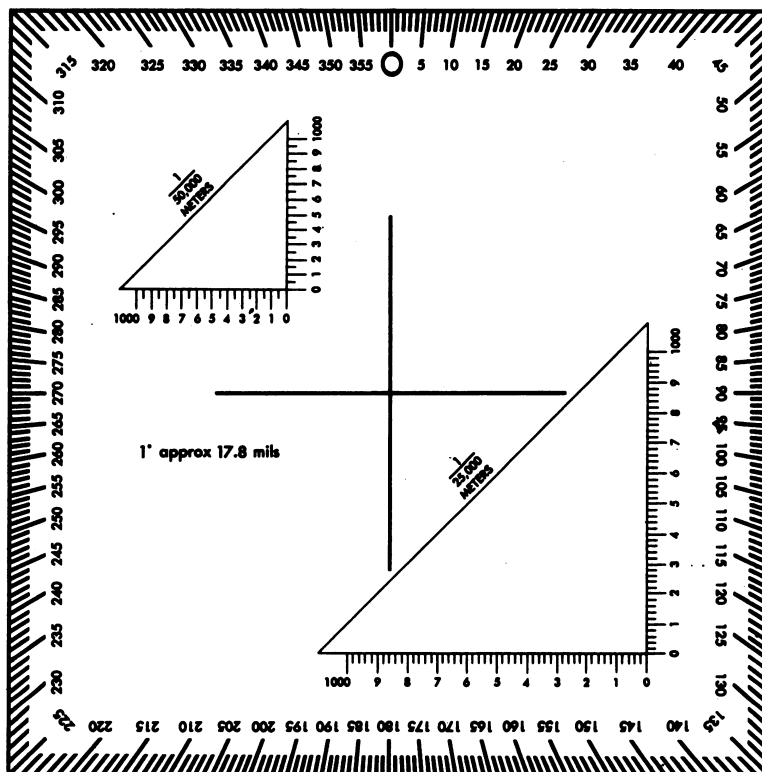

Figure 2
4. Using the coordinate scale designated as 1/25,000 (fig. 2), plot the remaining portion of the coordinate.